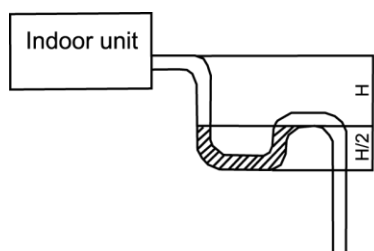

Figure 3-1-52
- (4) When the drain hose cannot keep a sufficient gradient, it is necessary to fit a riser pipe (field supplied) to it.
- (5) If the air flow of indoor unit is high, this might cause negative pressure and result in return suction of outdoor air. Therefore, U-type water trap shall be designed on the drainage side of each indoor unit (Figure 3-1-52).
- (6) Install one water trap for each unit.
- (7) Installation of water trap shall consider easy cleaning in the future.